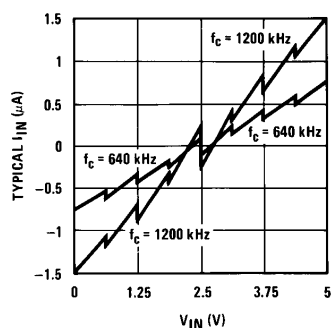

FIGURE 6. Comparator  $I_{IN}$  vs  $V_{IN}$
**Note 6:** Comparator input current is a bias current into or out of the chopper stabilized comparator. The bias current varies directly with clock frequency and has little temperature dependence (Figure 6). See paragraph 4.0.
The average value of the comparator input current varies directly with clock frequency and with  $V_{IN}$  as shown in *Figure 6*.